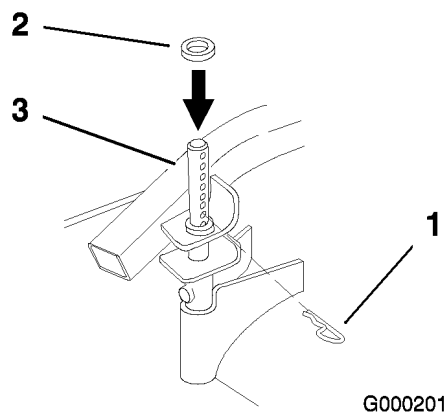

Figure 14
1. Remove the existing rear hairpin cotter pins from the rear height-of-cut posts (Figure 14).
2. Install a spacer onto both rear height-of-cut posts and install the hairpin cotter pins (Figure 14).